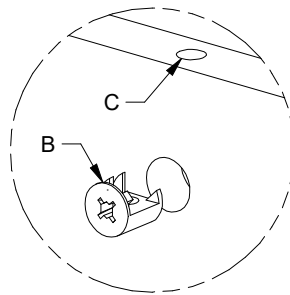

Figure 2
2. Cams: (Figure 2) Make sure the hex drive on the cam faces up, then push the cam down into large hole. If necessary, tap it in gently until it is even with the surface of the board. Turn the cam until the arrow (B) points at the hole (C) on the adjacent edge.